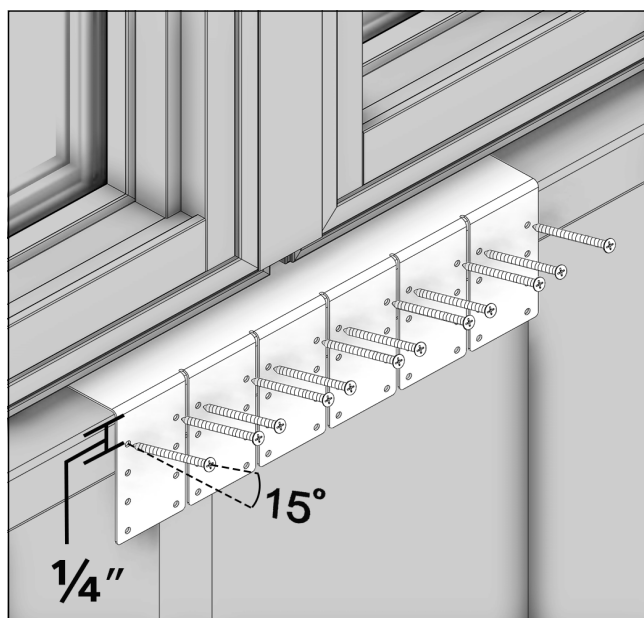

Figure 51
9. Bend gussets against wood framing as shown in Figure 51. Attach the gussets with twelve #8 x 1-5/8" screws. Make sure that the screws are no more than 1/4" from the bend in the bracket (edge of wood buck). Angle the screws approximately 15 degrees toward the thicker part of the framing member. *NOTE: It may be necessary to drill two 5/32" holes in the bracket.*